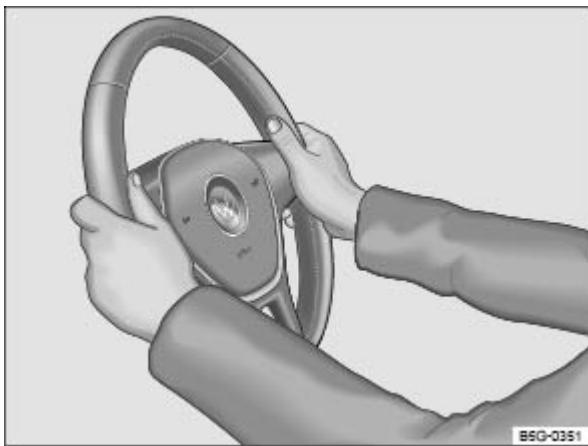

Fig. 72 Steering wheel: 9 o'clock and 3 o'clock positions.
- Adjust the steering wheel so that it can be held with hands at the 9 o'clock and 3 o'clock positions on the outside of the steering wheel rim and with the arms slightly bent at the elbow ⇒ Fig. 72 .
- Always hold the steering wheel on the outside of the steering wheel rim with your hands at the 9 o'clock and 3 o'clock positions ⇒ Fig. 72 to help reduce the risk of serious personal injury if the driver's airbag inflates.